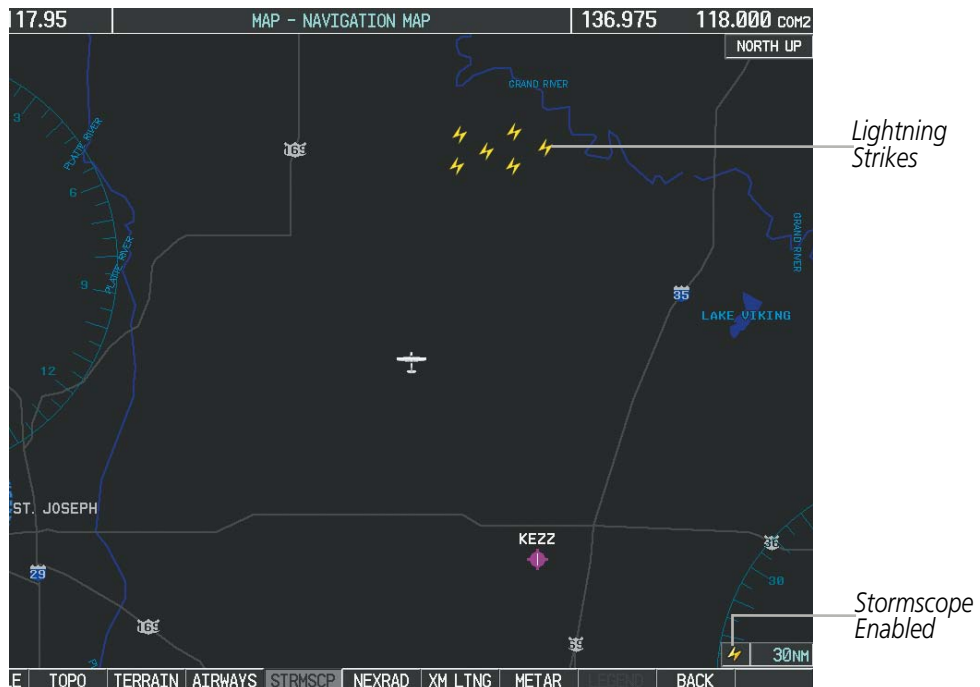

Figure 6-112 Navigation Map Page with Stormscope Lightning Data
- 7) Press the **FMS** Knob to return to the Navigation Map Page (Figure 6-112).
On the Navigation Map, cell mode identifies cells of lightning activity (Figure 6-112). Stormscope identifies clusters of electrical activity that indicate cells. Strike mode indicates the approximate location of lightning strikes.